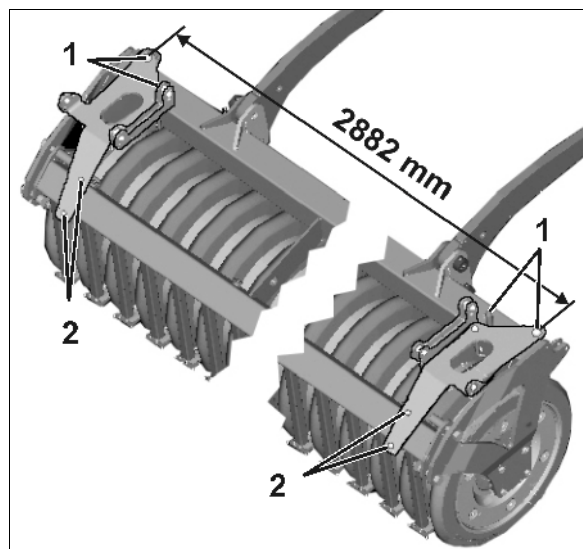

Fig. 22
- 1.1 At the front (Fig. 22/1) use clamping braces.
- 1.2 At the rear (Fig. 22/2) use a clamping plate and screws.